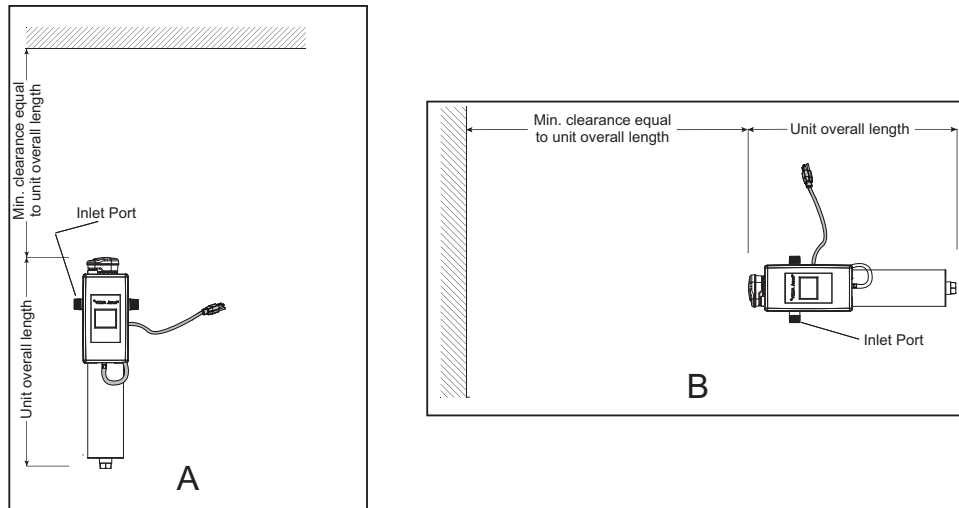

Figure 4 UV System Installation - Vertical and Horizontal
2. Select a suitable location for the UV System and its related components. As it is recommended to install a GFCI, make sure that this is taken into consideration prior to any installation. The system can either be installed vertically as shown in Figure 4 A, or horizontally as shown in Figure 4 B. However, the vertical installation is the most preferred method. When selecting a mounting location, leave enough space to allow the removal of the UV Lamp Unit (typically leave a space equal to the size of the UV Chamber itself).